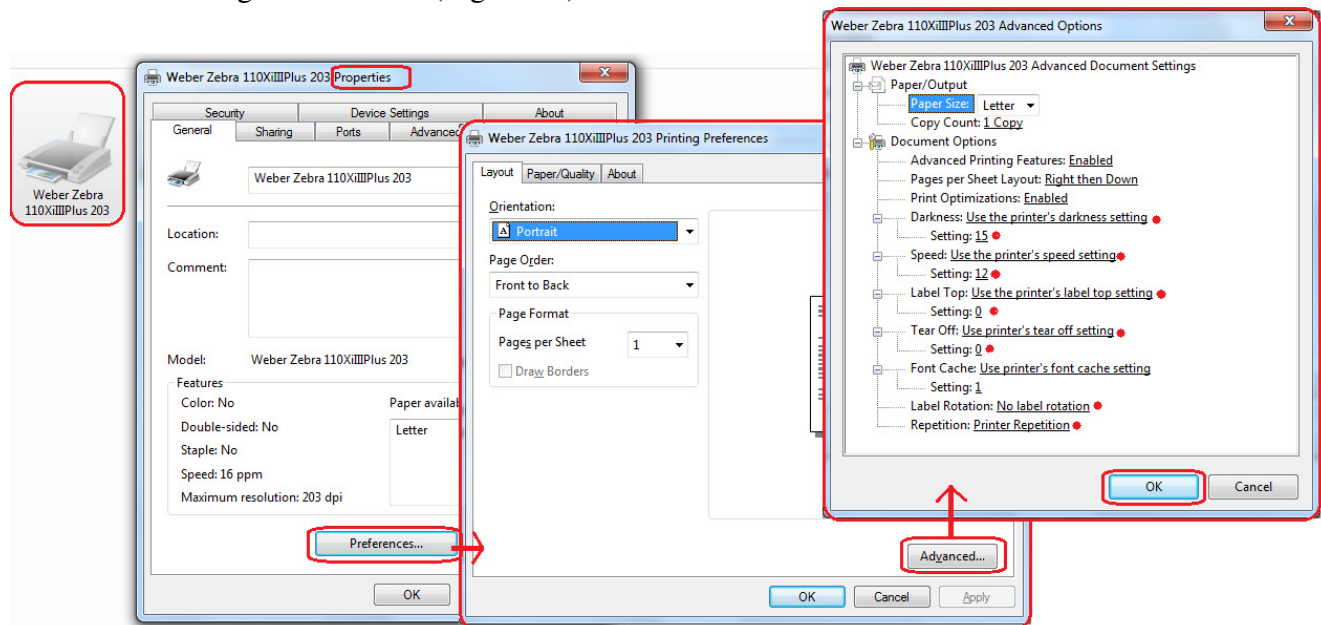

Figure 20
16. **Printer Properties – “General” Tab – “Preferences Button”** takes you to the Printer’s Preferences window and clicking on the “**Advance Button**” will get you to the “**Document Options**” settings for Darkness, Speed, Label Top Adjustment, Tear-off Setting, Print Rotation, and Repetition(printer or computer repetition) settings as shown in (Figure 20) below: